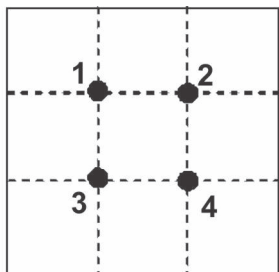

Fig. 1.4: Making markings for fixing the screws.
1. In the above two activities, you have made a 6 cm \times 6 cm dimension wooden piece. Now, using a scale and a pencil, draw straight lines at every 2 cm on this board as shown with dotted lines in Fig. 1.4.
5. Take the awl tool, place it on the wooden board at point '1' of Fig.1.4 and push it firmly in the wood. This will help you make a small hole at point '1' on the board.